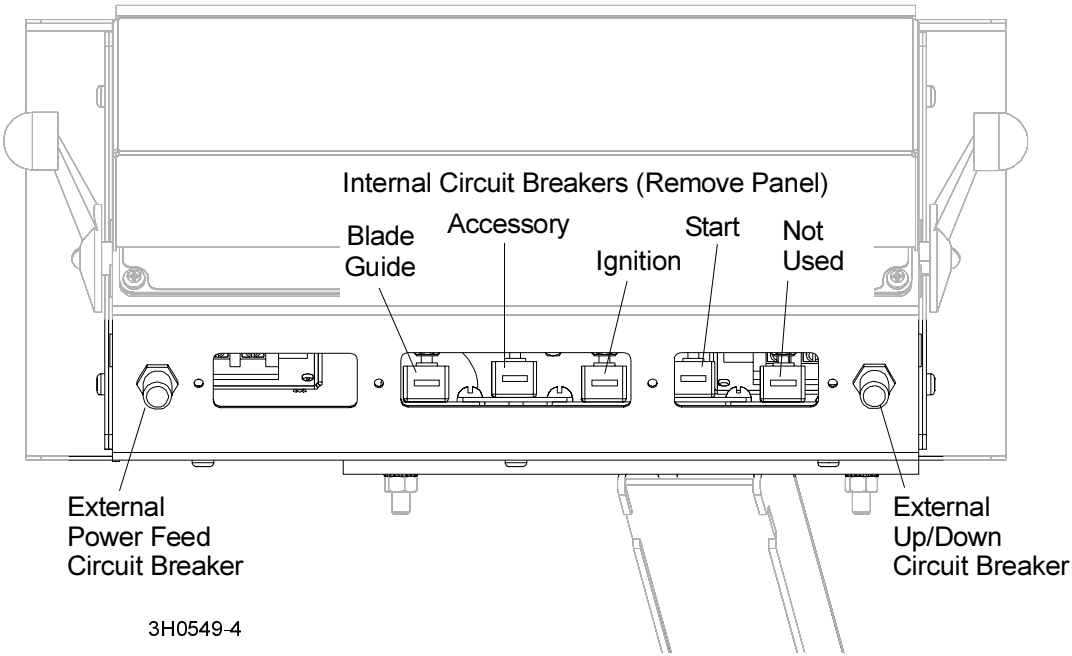

FIG. 7-4
**See Figure 7-4.** The power feed, autoclutch and up/down breakers are externally mounted at the front of the control box. The blade guide, accessory, ignition and start breakers are located inside the control box. Remove the circuit breaker panel from the control box to access the internal breakers.